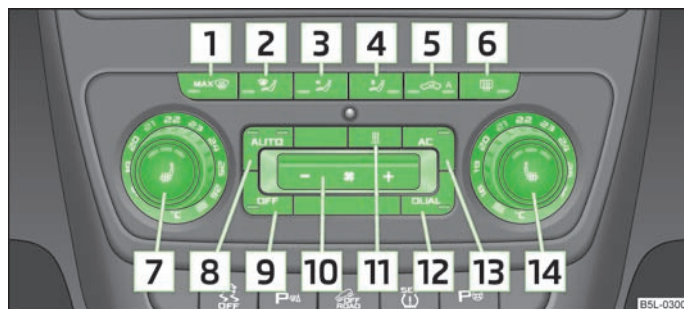

Fig. 90 Climatronic: Control elements
- > Press the button (AUTO) » Fig. 90.
- Press the button **(AC)** » Fig. 90. The warning light lights up in the button.
- The temperature for both sides can be set with the control dial **[7]** » Fig. 90 after switching on the ignition.
- If the windshield mists up, press the button   » Fig. 90. Press the button  when the windshield is demisted.
➤ Repeatedly press the button  » Fig. 90 on the left side (reduce blower speed) or on the right side (increase blower speed).
- Press the button  » Fig. 90.
- Press the button   » Fig. 90.